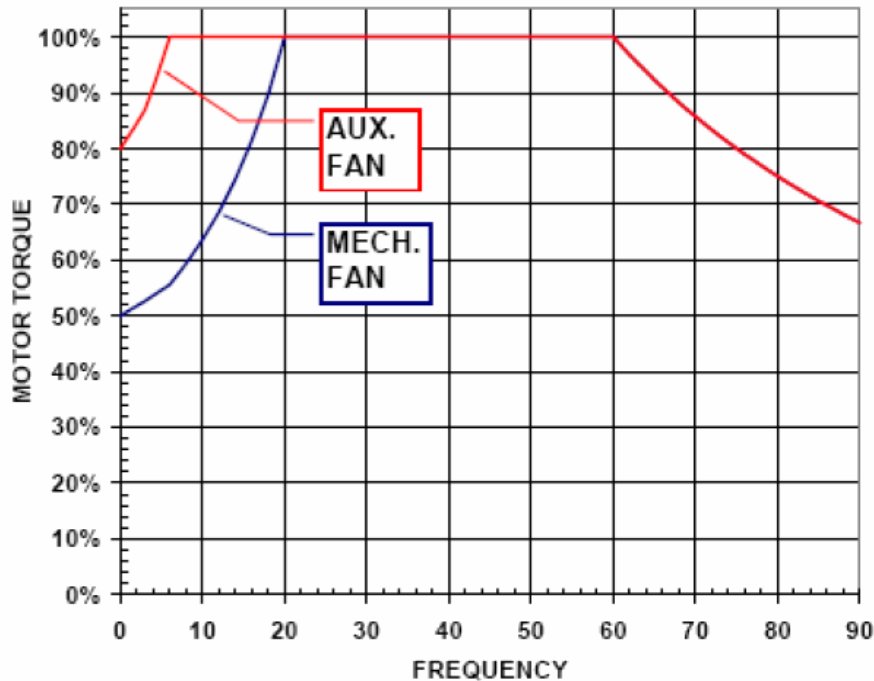

Figure 2.
1. All motors are constant horsepower and variable torque above base speed. A motor can only generate nameplate horsepower up to base speed because the voltage is fixed by the power source. As motor speed increases above nameplate frequency it becomes constant horsepower and variable (decreasing) torque. Since the horsepower is fixed, the torque of the motor will decrease as the speed of the motor is increased. Please refer to Figure 2 below. Maximum motor speed is limited by rotor balance, bearing life, overheating and other physical limitations of the motor.